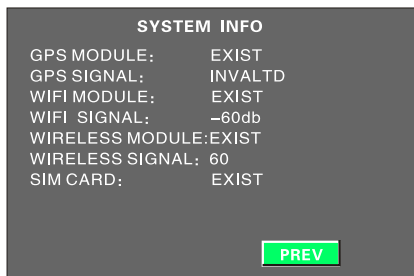

Figure 3-35
3. Check system information, refer figure 3-35, if the WIFI signal is over -60db, it indicates WIFI signal is excellent.